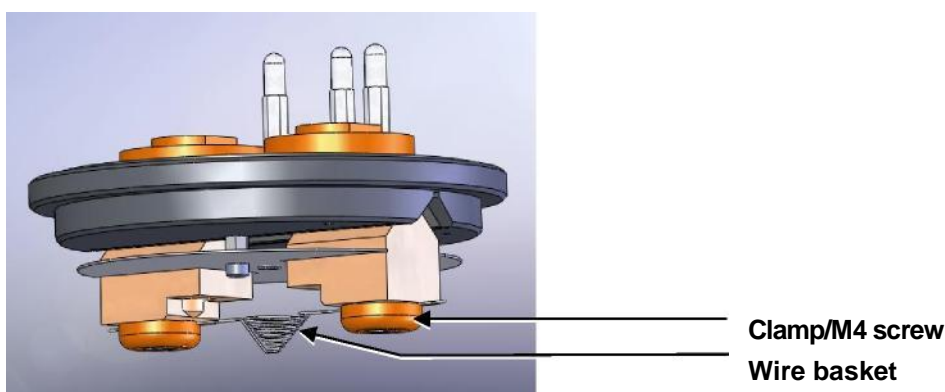

Figure 7-7. Fitting the metal evaporation insert for downwards evaporation
This section describes the installation of the metal evaporation insert designed for downwards evaporation (see Figure 7-7). To install the stage:
3. Fit the wire basket so that it lies diagonally across the screws and between the clamps and the terminals (see Figure 7-7).